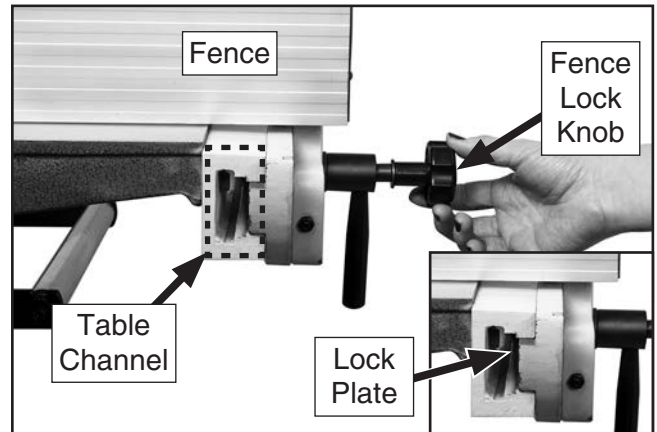

Figure 11. Attaching jointer fence to infeed table.
2. While an assistant pulls cutterhead guard back, insert lock plate into table channel (see **Figure 11**), then tighten knob to secure fence.